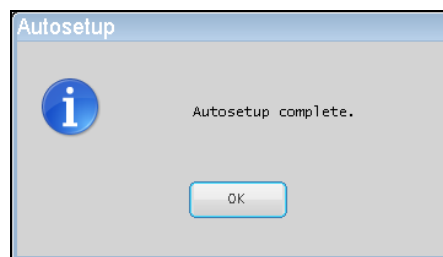

Figure 6.
- e. Press the Autosetup button to start. The guide will move a short distance and indicate the result as shown in Figure 6 below.